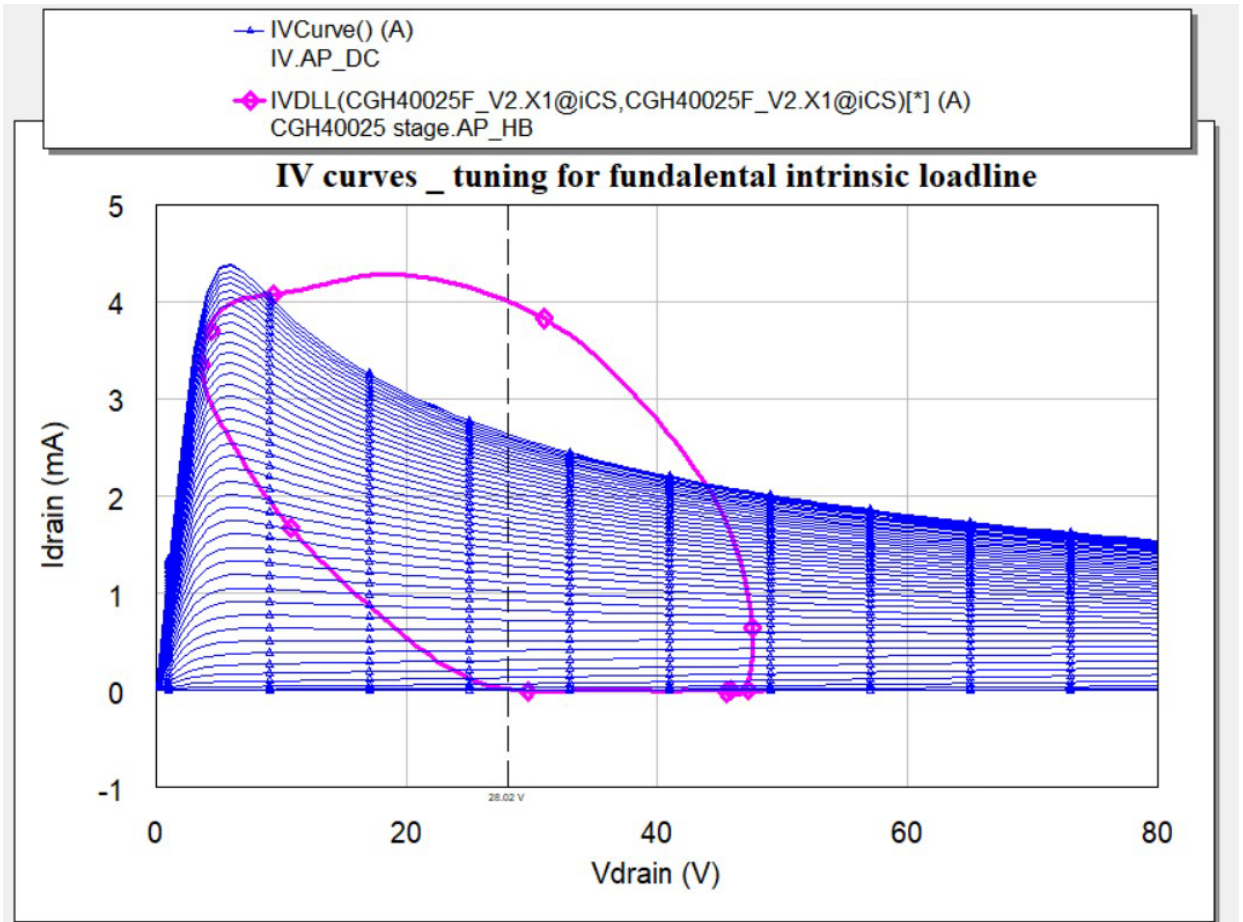

Figure 9
9. Then increase the tones to 15 to get the result of Figure 9. Now the complex load-line is fully contained by the boundaries of the IV curves.